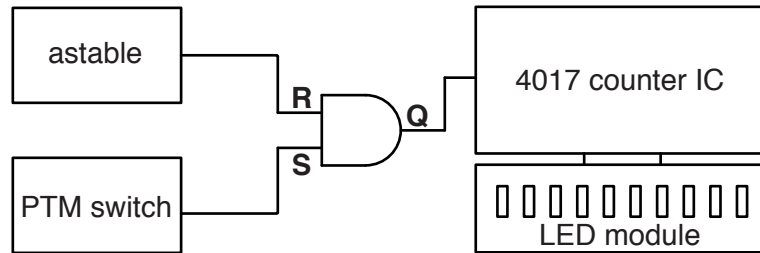

Fig. 13
- 10 (a)** A student wishes to make an electronic counter that will generate numbers from 0 to 9. Fig. 13 shows a block diagram of the system that will be used to control the length of time that the counter will 'roll' for before settling on one number. The 4017 counter IC counts from 0 to 9 repeatedly; each output will control one LED. The two inputs are an astable signal and a push to make (PTM) switch.
- (v) Name the logic gate used in Fig. 13 and complete the truth table below for the gate.